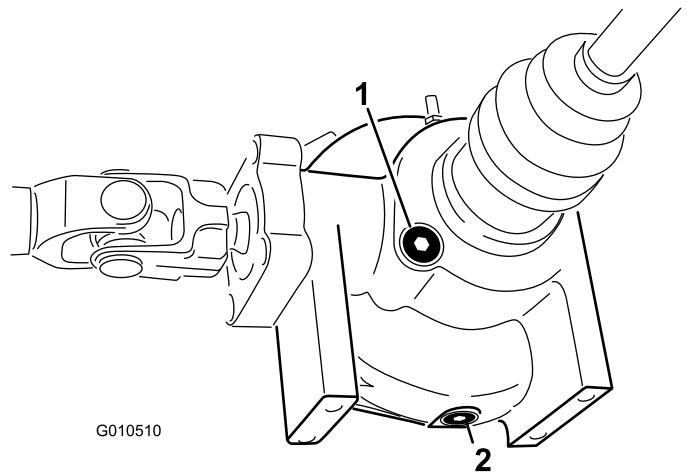

Figure 43
2. Clean the area around the drain plug on the side of the differential (Figure 43). Place a drain pan under the drain plug.